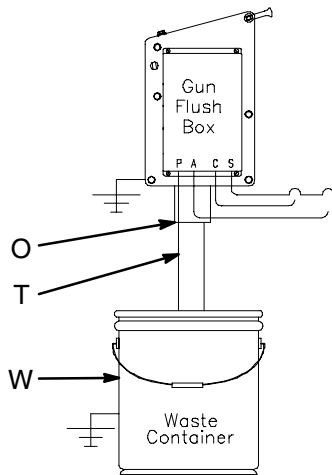

Fig. 3.15
2. Install the gun flush solenoid box (G) in the non-hazardous area, within 25 ft. (7.6 m) of the gun flush box. 100 ft. (30.5 m) of cable (C9) is provided, connecting the solenoid box with the controller (B).
3. Connect two feet (0.6 m) of straight pipe or tubing (T) between the Gun Flush Box fluid outlet (O) and an enclosed waste container (W). See Fig. 3.15.